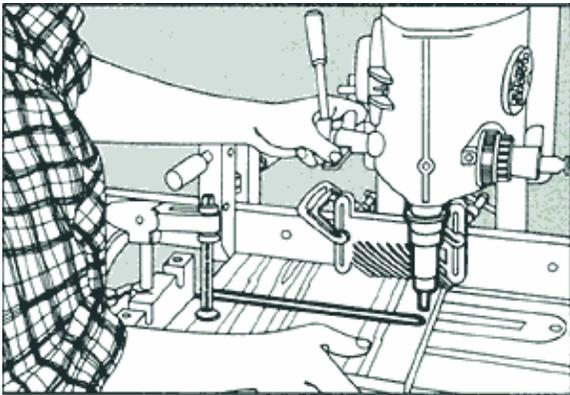

Figure 2
Step 15: Sand the drawers to fit on a stationary belt sander (See Fig. 2), starting with the bottom drawer. Be sure to mark all drawers for location to ensure the best fit...and avoid getting them switched.